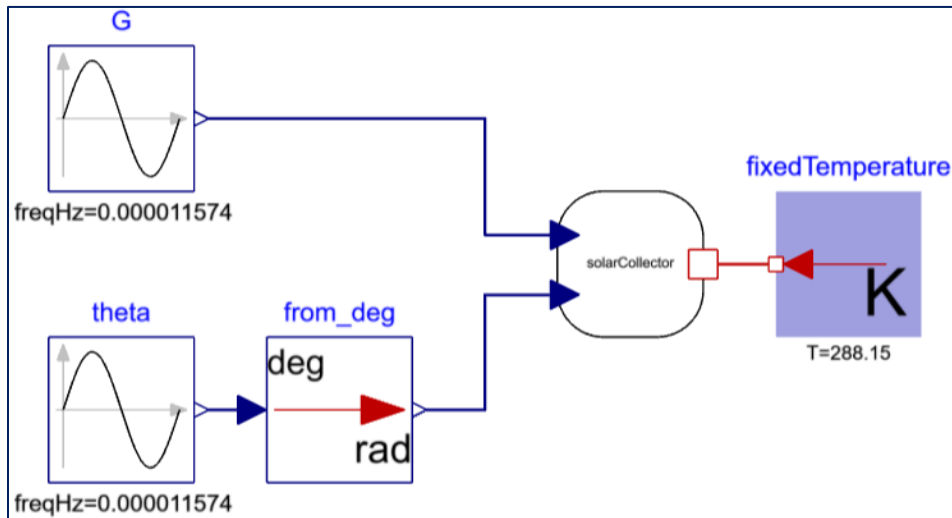

Figure 1 New layout of pump system
Note, theta in *SolarCollector* should be declared as radians. We therefore need to transform the output of the theta sine source to radians. This is done by dragging in component *Modelica.Blocks.Math.UnitConversion.From_deg*, see Figure 1.
5. Drag in component of the class *Modelica.Thermal.HeatTransfer.Sources.FixedTemperature* and set the parameter T to 15 *degC*. The system should now look like the Figure 1.